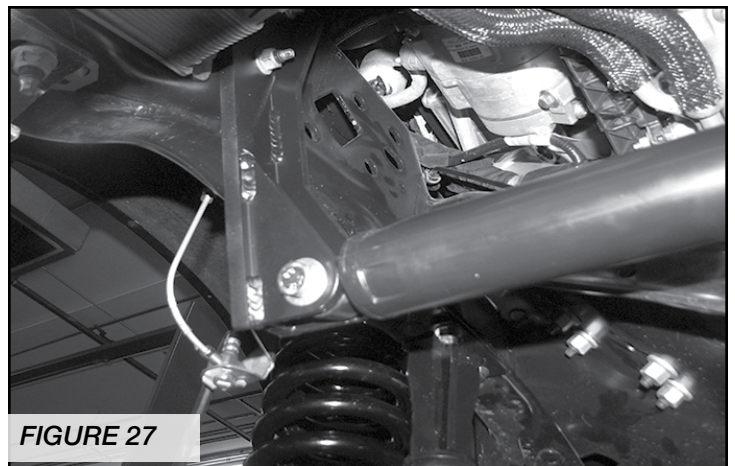

FIGURE 27
23. Reattach the ABS wires to the back of the spring perch and radius arm. Use the FTCLAMP10 to attach the brake line to the front of the spring perch using factory hardware. **SEE FIGURE 27**